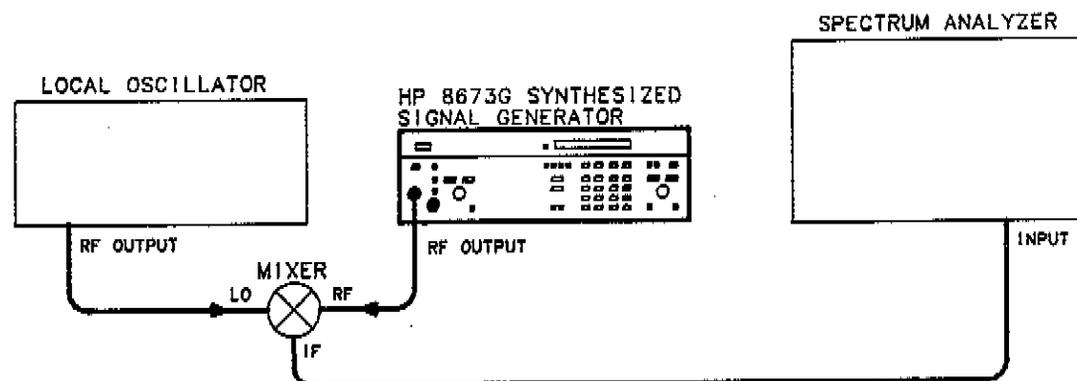

Figure 4-11. Single-Sideband Phase Noise Test Setup
- Connect the equipment as shown in Figure 4-11.